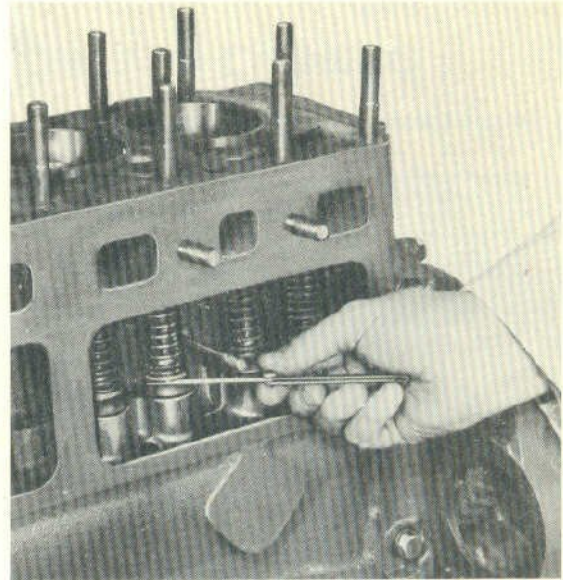

Fig. 9
Step 4—Check the valve stem clearance as shown in Figure 9.